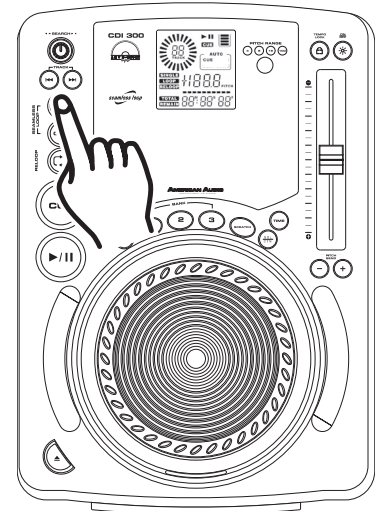

Figure 14
A cue point is the exact point playback will begin when the *PLAY/PAUSE BUTTON (14)* is pressed. You may set your cue points anywhere on a disc or in a track. You may set up to four independent cue points per disc. Four cue points are stored in the *BANK BUTTONS 1-3 (4)* and one is shared by the *IN BUTTON (19)* and the *CUE BUTTON (16)*. There are two (2) ways to set and create a CUE point as detailed in figures 14 and 15
- 1) You may press the *IN BUTTON (19)* on the fly (while the disc is playing). This will set a CUE Point without music interruption. Pressing the *CUE BUTTON (16)* will now return you to the same point that you pressed the *IN BUTTON (19)*. You may now store this CUE Point in any of the *BANK BUTTONS 1-3 (4)*. Pressing the *CUE BUTTON (16)* or the *IN BUTTON (19)* will now return you to this exact point.